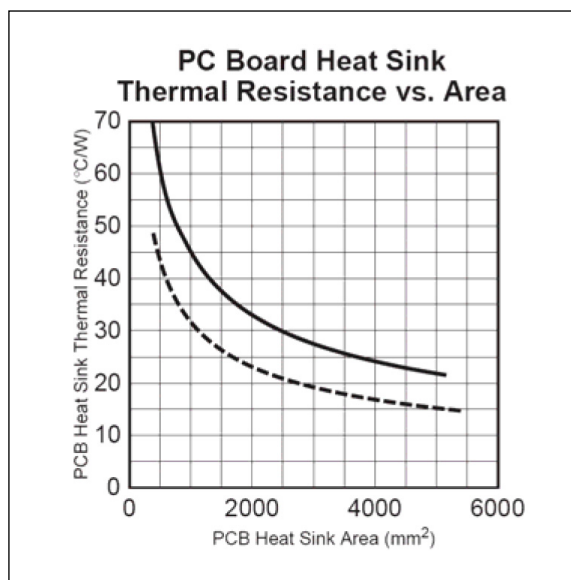

FIGURE 5-3: Electrical Circuit.
- R_{θCA} = 53°C/W, read from Figure 5-3.